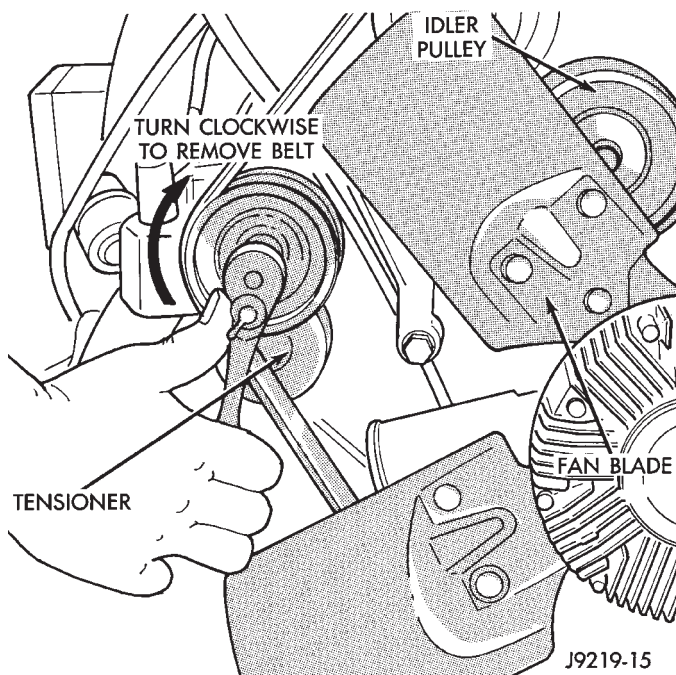

Fig. 34 Automatic Belt Tensioner—3.9L/5.2L/5.9L Engines
(a) Remove generator drive belt as follows: Drive belts on both 3.9L and 5.2L/5.9L engines are equipped with a spring loaded automatic belt tensioner (Fig. 34).
(b) Attach a socket/wrench to pulley mounting bolt of automatic tensioner (Fig. 34).
- (d) Attach a socket/wrench to pulley mounting bolt of automatic tensioner (Fig. 34).